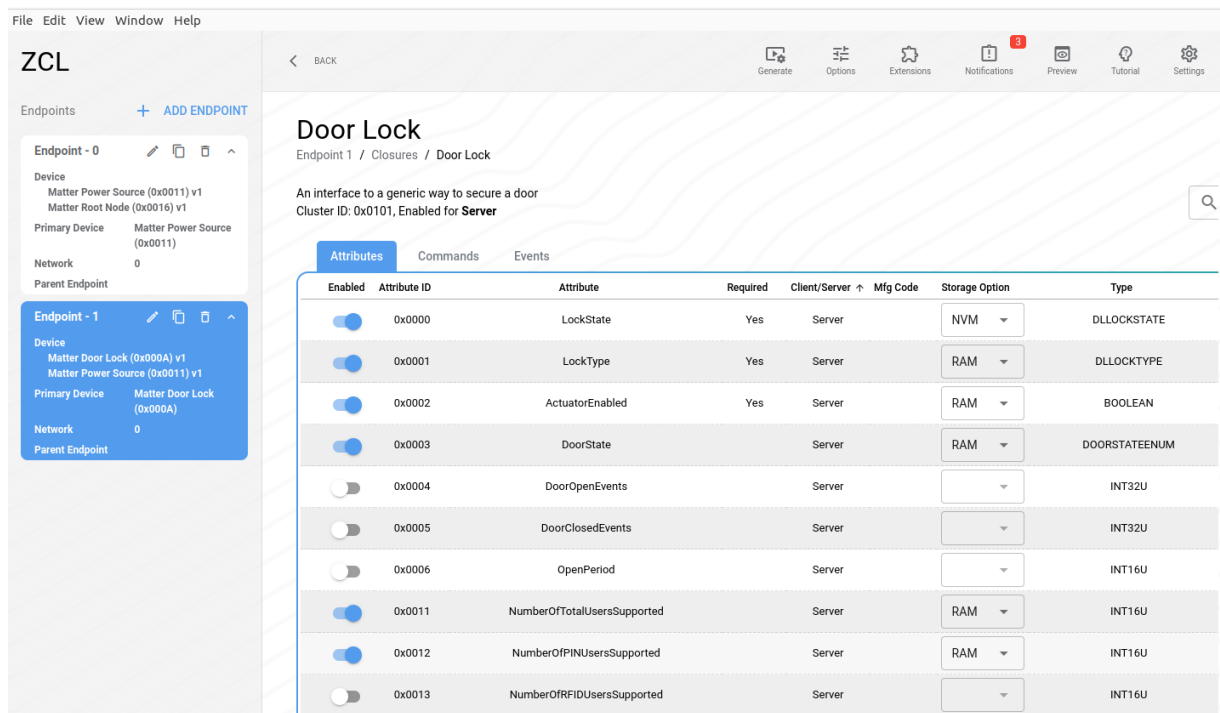

Figure 15. Door Lock Attributes
1. Go to the **Attributes** tab, which lists all the attributes defined for that cluster in the Matter specification, see Figure 15.